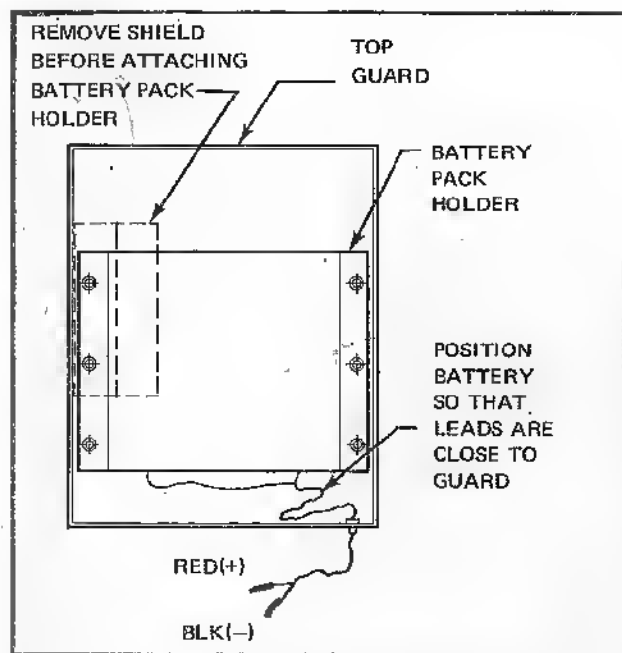

Figure 6-9. BATTERY OPTION KIT INSTALLATION
side of the top guard, using the battery pack holder and the six machine screws (Figure 6-9). Orient the battery pack so the grommeted battery leads pass through the grommet hole in the edge of the guard.
g. On underside of top guard, remove shield. See Figure 6-9. Install the battery pack on the underneath